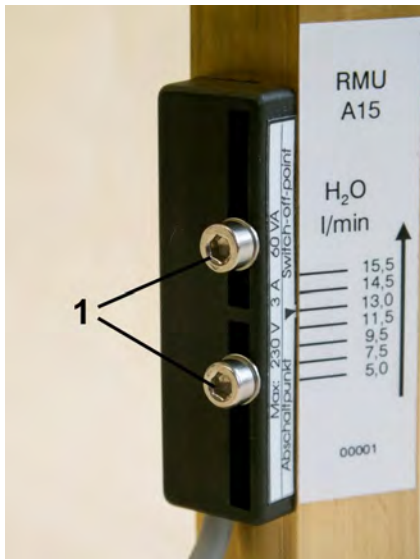

Fig. 23: Loosen set screws (example switch point adjustment scale)
1. ➤ Loosen the set screws of the switch contact (Fig. 23/1) using a hex screwdriver.
3. ➤ Tighten the set screws of the switch contact (Fig. 23/1) using a hex screwdriver. When doing so, observe the correct tightening torque of the screws.